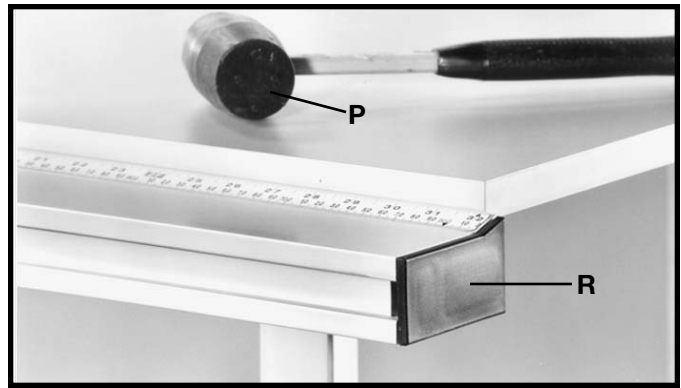

Fig. 29
7. Using a rubber mallet (P) Fig. 29, or a hammer and a block of wood, gently tap end cap (R) into both ends of the guide rail. **NOTE: To avoid damage to the guide rail, DO NOT use a metal hammer directly against the guide rail.**